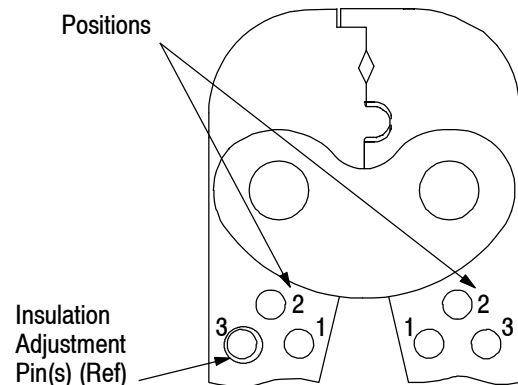

Figure 6
1. Insert insulation adjustment pins in Position 3. See Figure 6.
Always place both adjustment pins in the same position. See Figure 6.